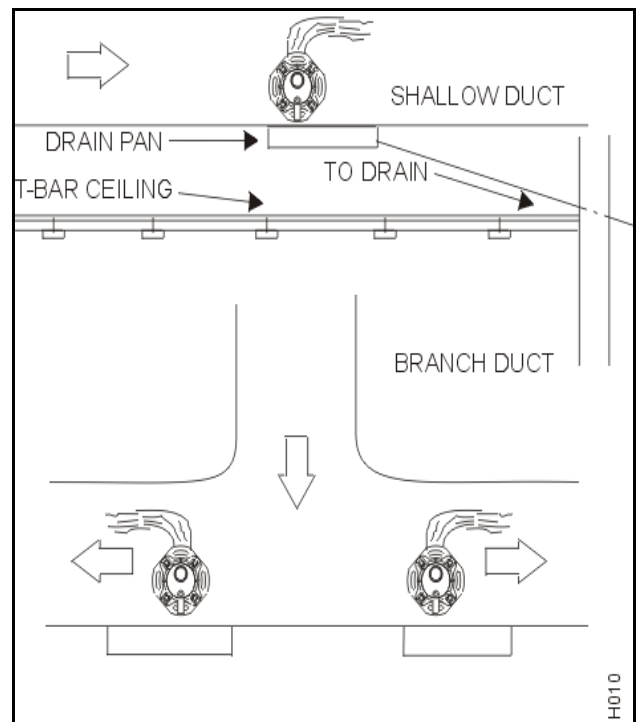

Figure 4. Condensate Drain Pan
- (1) NORTEC always recommends the use of a high limit humidistat set at 85% relative humidity in combination with an air-proving switch to assure air movement. Both of these controls are wired in series across the primary control terminals of the humidifiers so that should either of these conditions not be satisfied the humidifiers cannot operate.
- (2) Low temperature, shallow ducts or branch ducts might require a field supplied condensate drain pan and should be accessible to service and inspection (See Figure 4.).
- (3) The most effective method of ensuring controlled absorption distances is to install a modulating high limit humidistat. By controlling the down stream [after distributor(s)] humidity levels and modulating the humidifier's output, one of the variables affecting absorption distance is now a constant. NORTEC recommends modulating high limit humidistats on all economizer systems, VAV, VVT, and systems, which are primarily cooling.
- (7) Long steam runs with improper slopes can produce spitting at the distributor because the steam is travelling at a high velocity and will push condensate out the distributor. If a slope of 2" for every 12" of steam run cannot be achieved, then condensate must be removed before the distributor. (See Figure 4.)